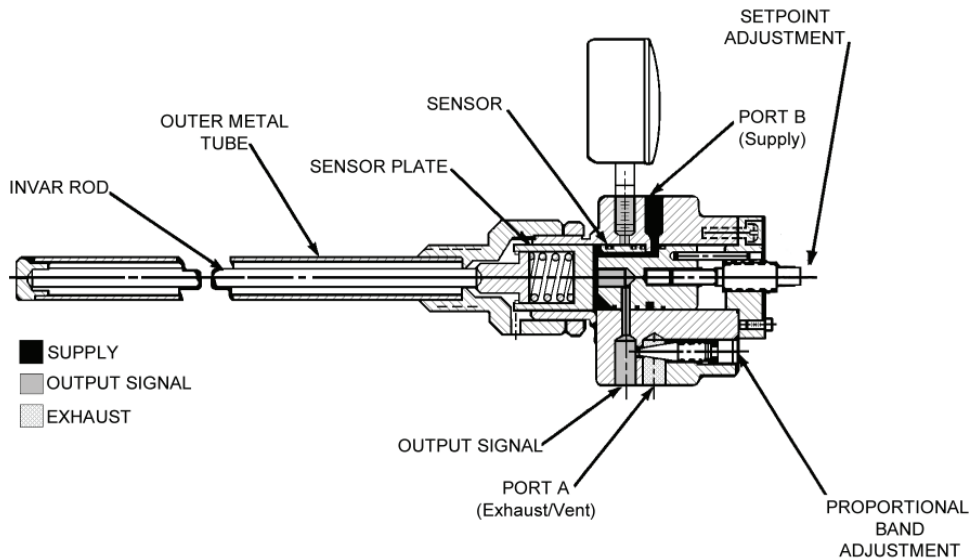

Figure 7: 764T Direct Action View Shows Port A & B Rotated From Actual Position
3. On direct acting controllers, see Figure 7, the supply enters PORT B. With an increase in the